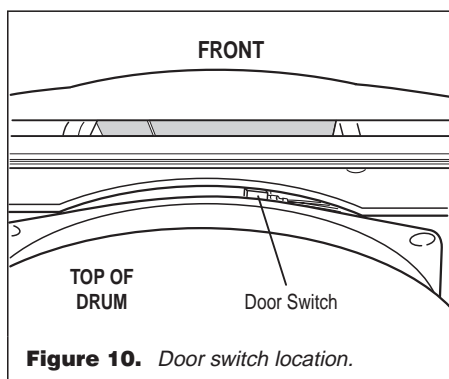

Figure 10. Door switch location.
- ➔ If any of the above conditions are not met, or if one of the dryer model codes listed above is displayed when the door is **closed**, check that the wires between the door switch and machine control electronics are connected. See figure 10 on page 7 for switch location, and see Accessing the Machine Control Electronics, page 7.